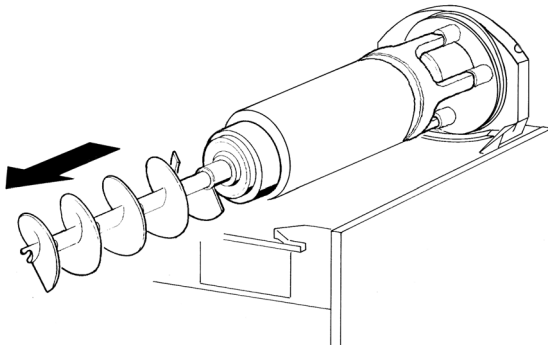

**figure 9**
- 2** Remove the bowl by lifting its faucet side up and off the fastening hooks (see figure 8) and slide it out (see figure 9).